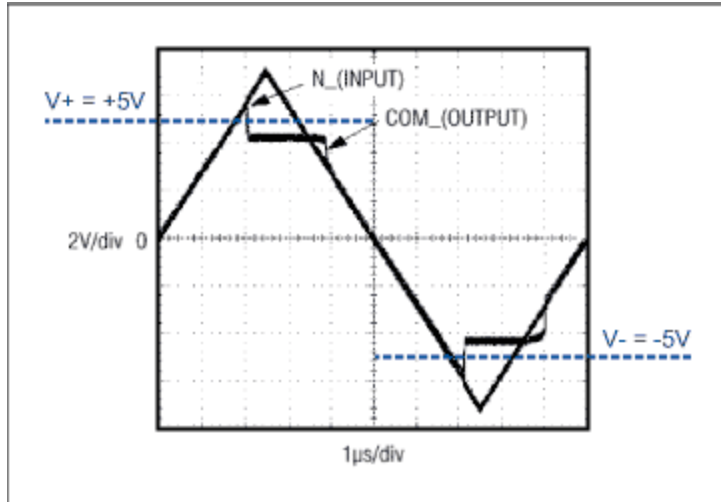

Figure 6. Input vs. output voltage during a fault condition.
**Figure 6** displays the output voltage for a closed, fault-protected switch during input faults of both polarities. Typically, 200ns after the input voltage exceeds V+ (or V-) by approximately 150mV, the output (COM) equals the positive (or negative) supply voltage minus a drop voltage due to the FET. When the input fault returns within the supply rails, a delay of 700ns (typical) elapses before the output recovers and resumes following the input. That delay depends on the COM output's resistance and capacitance, and does not depend on the fault amplitude. Higher resistance and capacitance at COM increases the recovery time.